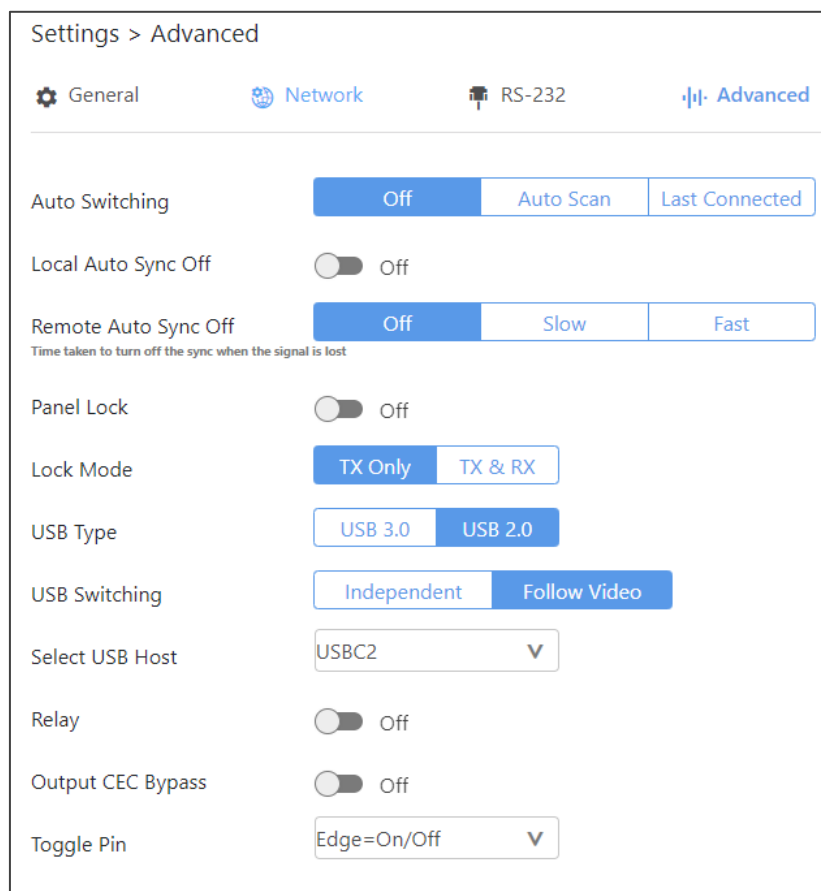

Figure 30: Settings Page – Advanced Tab
2. Select the Advanced tab (Figure 30).